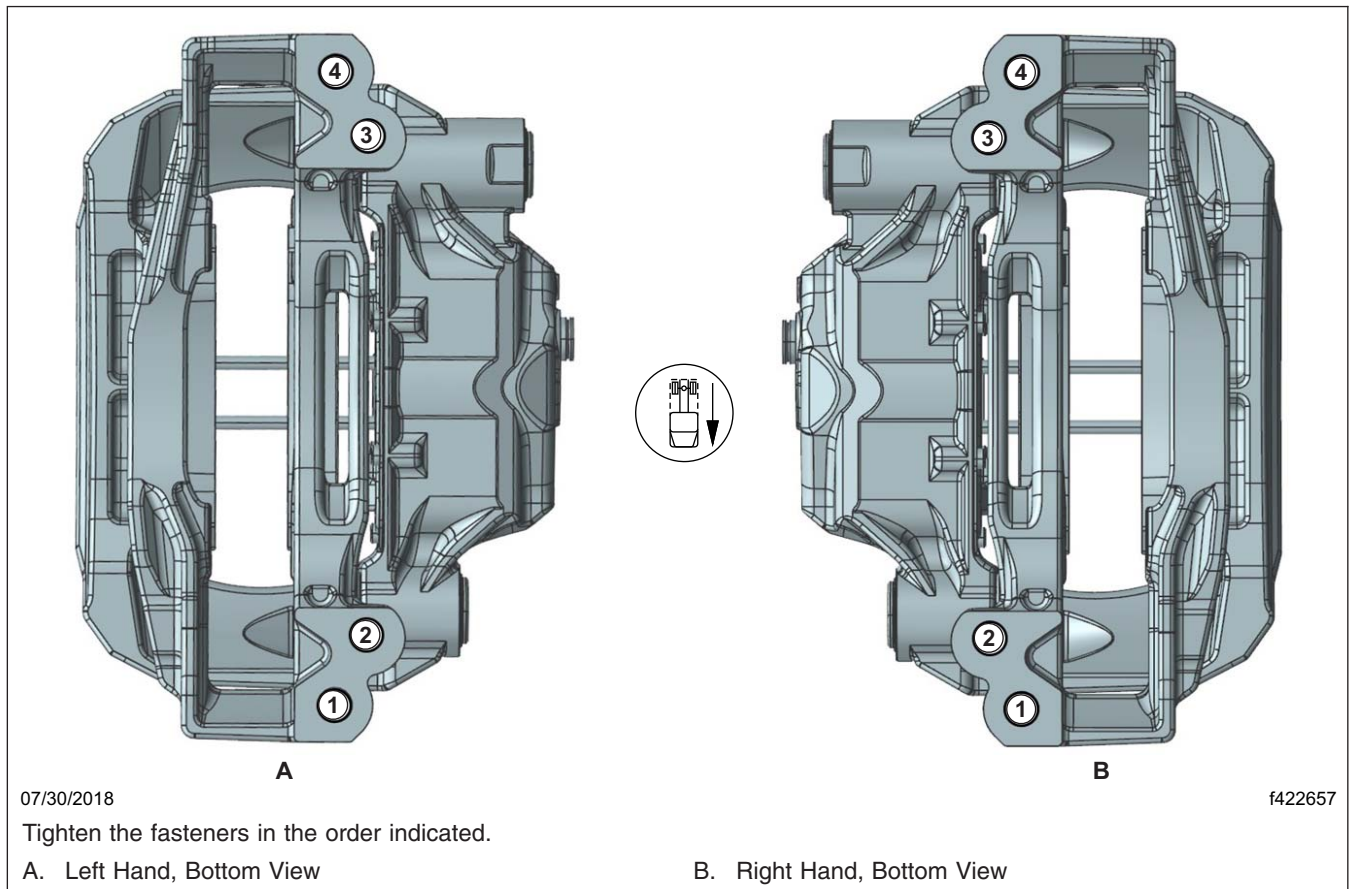

Fig. 14, Wabco Maxxus Radial Mounted Caliper Tightening Pattern
4. Set a torque wrench to 273 lbf·ft (370 N·m) and tighten the caliper mounting bolts following the tightening pattern shown in **Fig. 14**. If they do not turn, no further work is needed. If they turn, take the vehicle to an authorized Freightliner dealer to have all of the caliper bolts on that wheel end replaced.